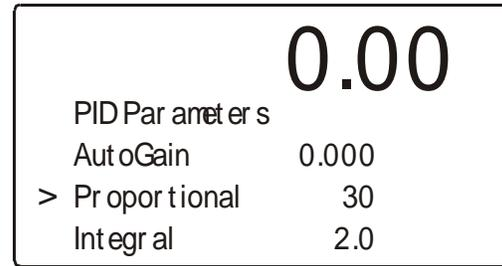

FIG. 3-14 PID PARAMETERS/SETTING PROPORTIONAL
- Step 1. Press the Gain/1 button. The PID Parameters Display appears with the cursor in front of Proportional. (See Fig. 3-14)